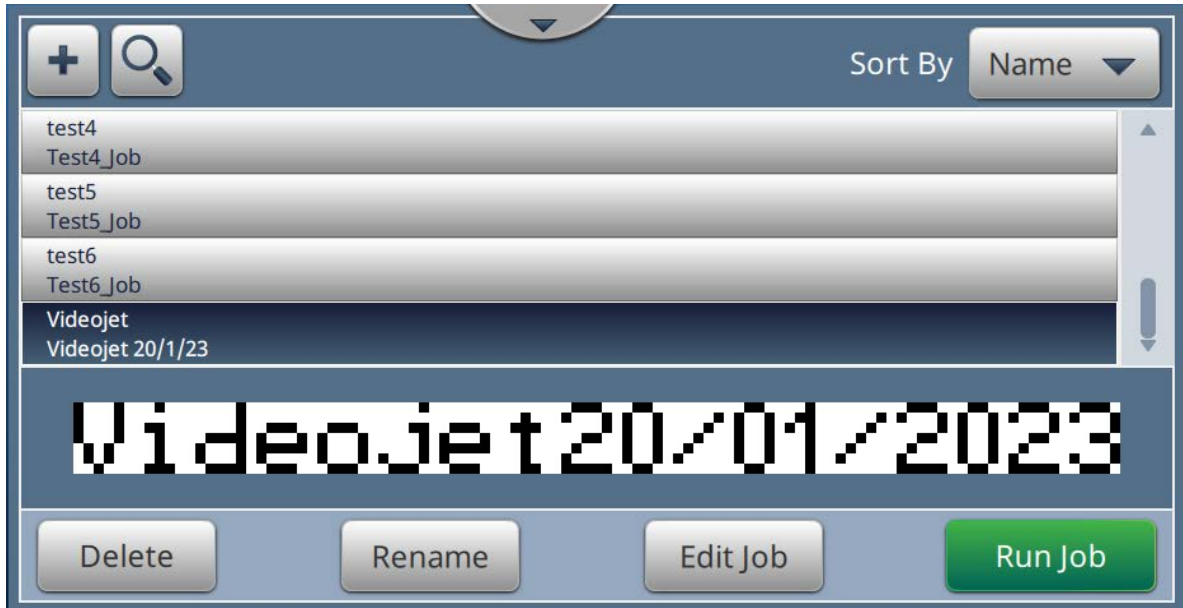

Figure 5-28: Job List
32. The job “Videojet” is added to the job list as shown in Figure 5-28.